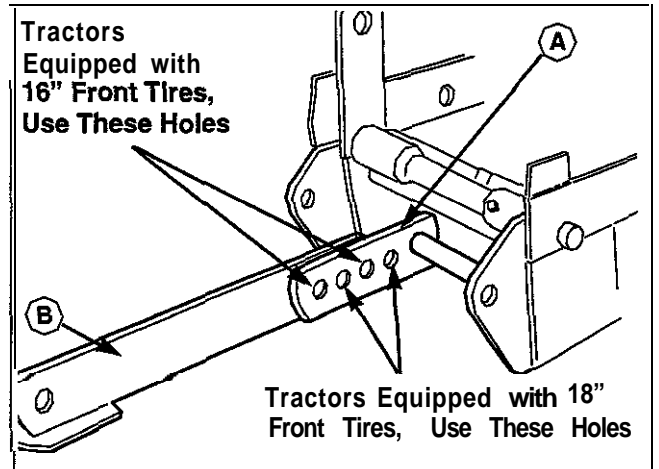

figure 1
See figure 1. Assemble the lift arm (B) to the hitch (A) using two 1/2-13x 1-3/4 in. cap screws, lock washers and nuts. (Insert the cap screws from the left to right in the holes as shown.)